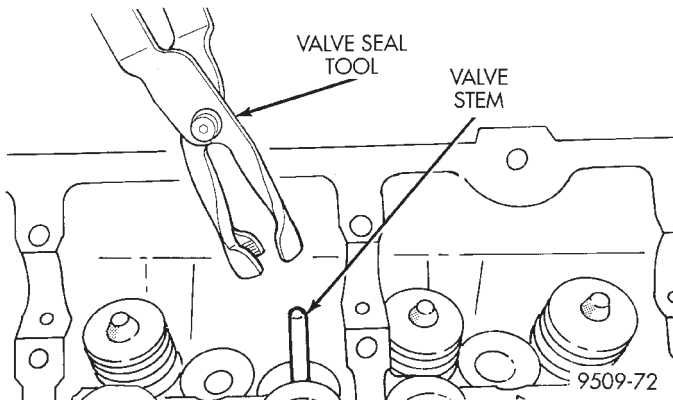

Fig. 46 Valve Stem Oil Seal Tool
(1) Coat valve stems with clean engine oil and insert in cylinder head.
(2) Install new valve stem seals on all valves using a valve stem seal tool (Fig. 46). The valve stem seals